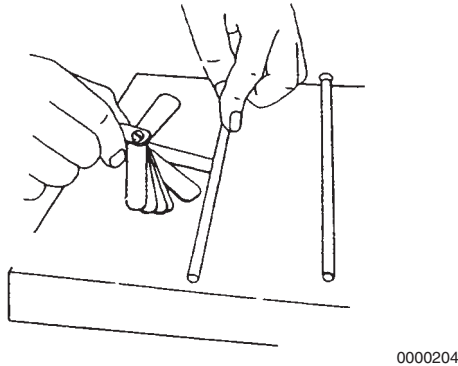

Figure 6-13
- Use a feeler gauge to measure the gap (Figure 6-13). See Push Rod on page 6-8 for the service limit.